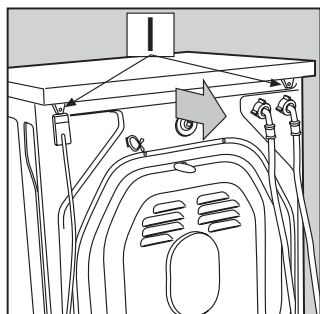

Fig. 9
- Remove the covering lid by removing the two I screws and pulling it towards you (Fig. 9).